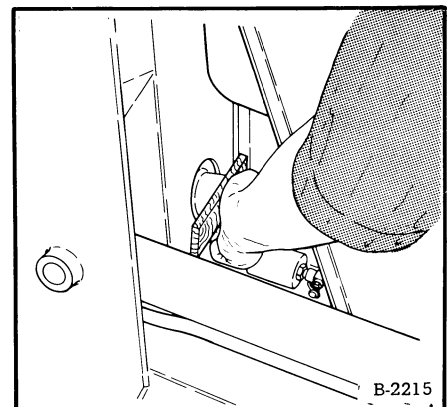

Fig. 1-9 Checking Air Cleaner System
(3) Check complete air inlet system and replace any parts which have a defect.
(4) Check the operating condition of the system, as follows:
- b. Hold a piece of wood over the inlet pipe of the air cleaner (Fig. 1-9). The engine must slow down then stop.